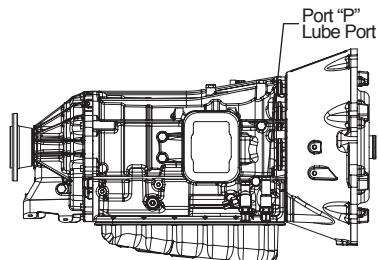

Fig. 20
9. Locate the transmission PTO lubrication port (see figure 20). Locate the straight fitting (43T39222) and insert (o-ring end first) into the lubrication port "B".